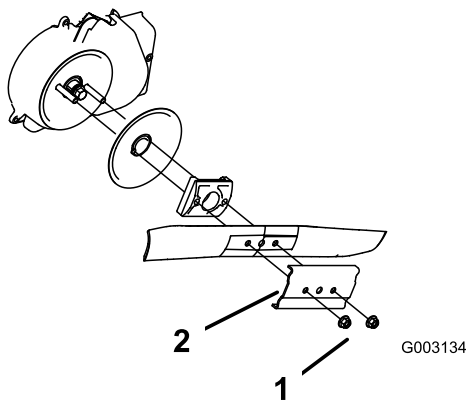

Figure 39
- Remove the 2 blade nuts and the stiffener (Figure 39).
- Remove the blade (Figure 39).
- Install the new blade (Figure 39).